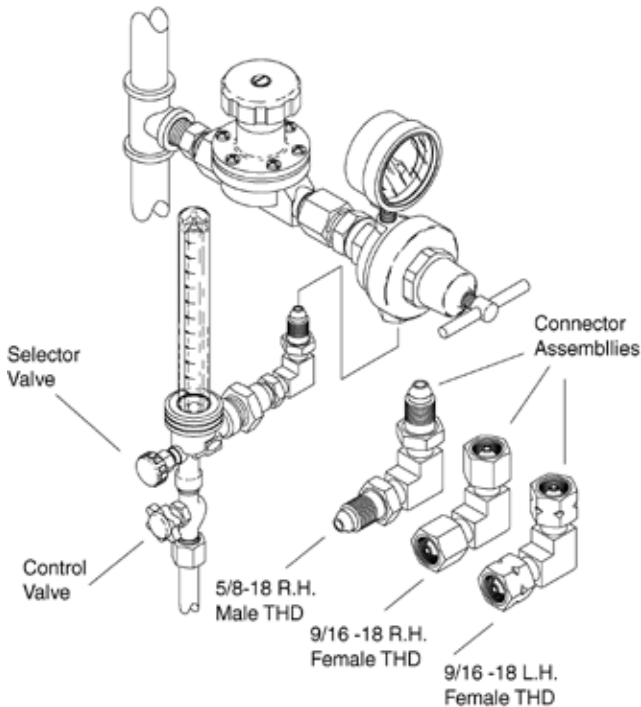

Figure 1. Dual Range Flow Meters 1600 Series
If the flowmeter is to be mounted on a bench, panel or similar location, and the flowmeter is located away from the regulator or gas source, remove the connector assembly (Figure 1) and connect the inlet connection to the regulator or gas source by a suitable hose. Connect the flowmeter outlet by a length of suitable hose to the equipment to be supplied with gas. If the calibrated side of the tube is located such that reading is difficult, the tube may be rotated with the casing. For directions to rotate the tube, refer to the MAINTENANCE paragraph, CASING, TUBE, FLOAT AND ASSOCIATED REPLACEMENT PARTS.
To mount the flowmeter to a pipeline or cylinder, mount as follows (Figure 1 or 2):
- b. Set the selector valve (Figure 1) for the proper range. For high-range service, the valve must be all the way out; for low-range service, all the way in.
- c. Turn the control valve (Figure 1) clockwise to the closed position. Avoid overtightening which may damage it.